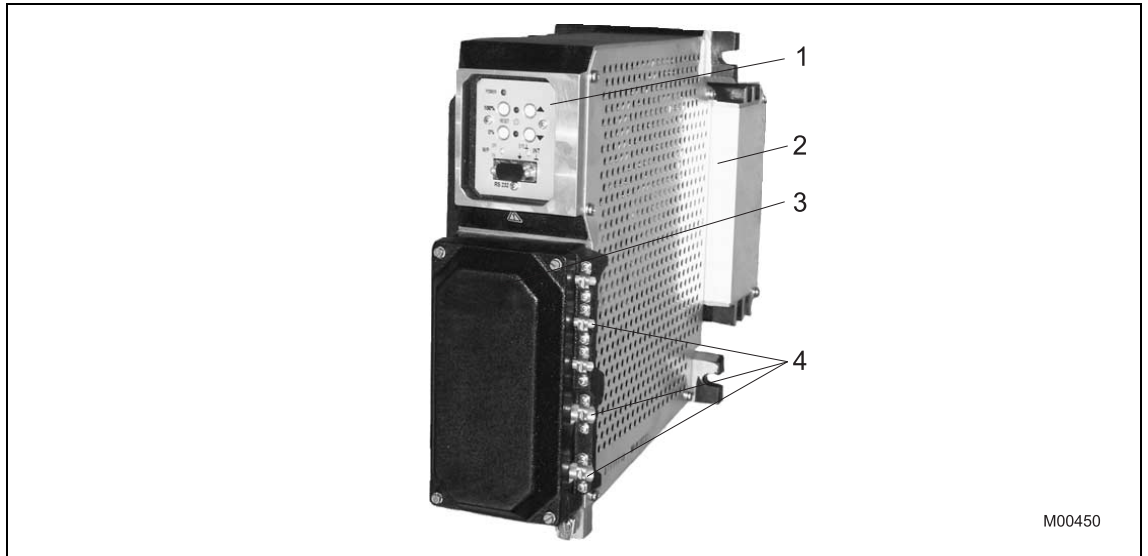

Fig. 7: EBS852
4. Remove the cover from the connection space (Fig. 7, item 3).